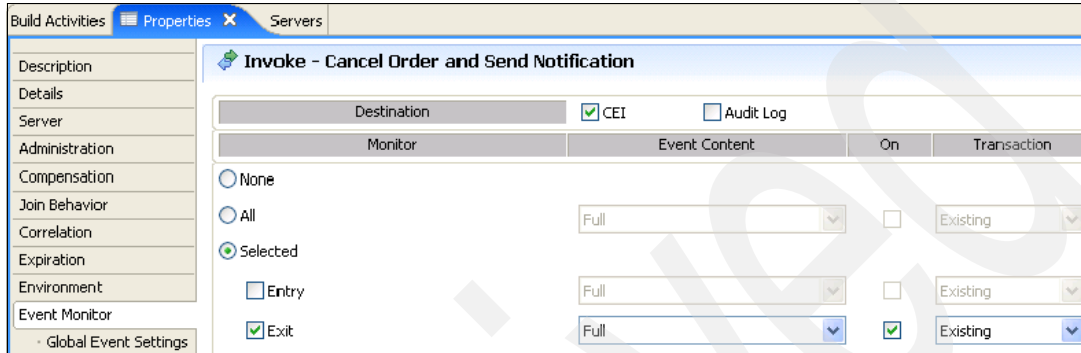

Figure 5-17 Cancel Order and Send Notification activity event selection
2. Click the **Properties** tab and then click the **Event Monitor** subtab (Figure 5-17). Click **Selected** and select the **Exit** check box.